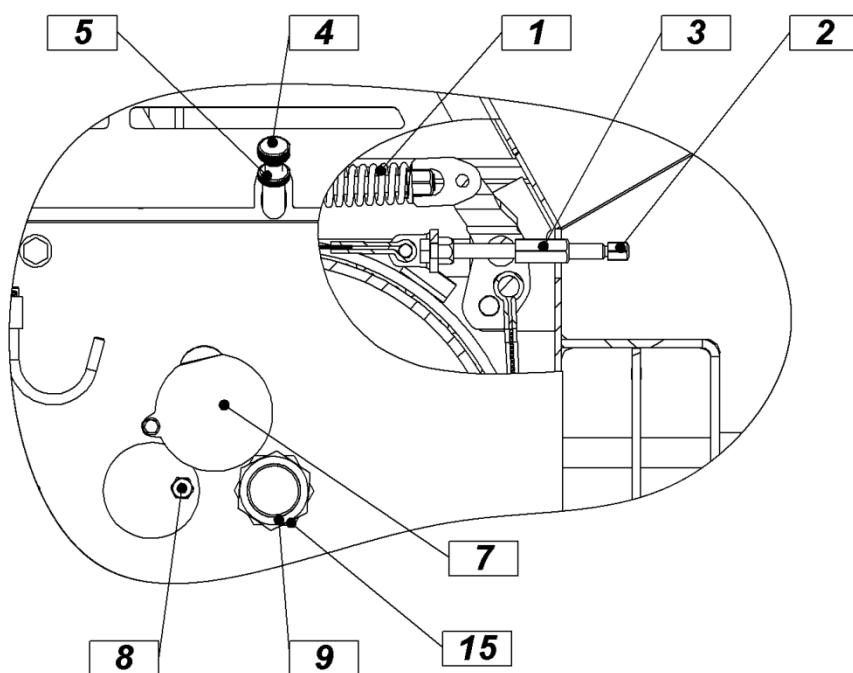

Figure 11
Pulling force on the clutch is factory set and does not require to be changed. Due to wear of friction surfaces, distance between clutches needs to be set after a certain period. This is done once a year at usual work in the forest or after every 1000 m³ of pulled out logs, but not before end of warranty period. Perform the setting by unscrewing the nut (pos. 9, figure 11), which is the safety nut, to the left. Then, tighten the high nut (pos. 15, figure 11) to the right. In this position, there is no distance between the clutches. Then, unwind the nut for one turn to the left – this creates a gap between the lamellas of approximately 4-5 mm. Retighten the safety nut (pos. 9, figure 11) to the right. This protects the high nut from unwinding. Engage the motor and PTO shaft, pull out the rope and begin controlling the adjustment. If, despite not engaging the right button for pulling, the rope starts to move, then the distance between the clutches is too small. Increase it for approximately 1 millimeter or repeat the setting procedure by unwinding the high nut for ¼ of a turn to the left. Engaging pulling is not allowed, if the nuts (pos. 9 and 15, figure 11) are not installed on the shaft, because the hydraulic cylinder of the clutch gets damages, because the maximum permitted travel is only 8 mm!
With bolt (pos. 4, figure 11) and wing nut (pos. 5, figure 11) set the preliminary brake. By rotating the bolt to the right, the brake force is increased, with rotating to the left, the brake force is decreased. Then tighten the wing nut, which prevents the bolt to loosen automatically. Proper setting ensures that the wire rope does not roll off the drum automatically or excessively. This would cause loose winding and damage to the wire rope at fast disburdening of the brake and unwinding. Preliminary brake is properly set when unwinding of the rope is still possible without excessive effort. If you pull the rope uphill, it is possible to additionally disburden the brake, so that rope towing is easier, the bolt (pos. 4, figure 11) must be returned to its original position immediately after.
At the end of pulling, the differential brake automatically engages. **The brake is factory set to the braking force, which is 25% higher than the rated pulling force of the winch. As the braking padding is wearing down, the braking force is changing and you have to reset it periodically. This is required when the brake does not hold the burden as described in the beginning of this paragraph. The braking force is adjusted by loosening or tightening the screw (pos. 2, figure 11) after you have loosened the locking nut (pos. 3, figure 11). Tightening the screw (pos 2, figure 11) decreases the braking force, while loosening increases it. After the adjustment is completed, tighten the locking nut (pos. 3, figure 11). Correctly adjusted frictional brake in the engaged position prevents the burden from sliding backwards, while in the disengaged position it allows for an uninterrupted drawing of the rope from the winch.**
First, remove the triangular protective net on the winch column. Then rotate the cover (pos. 7, figure 11) and rotate the drum in a position, which enables unscrewing of the bolt (pos. 8, figure 11) on the drum. Insert the wire rope in the guide of the upper pulley and direct it through the upper pulley to the rope drum. Insert the rope in the groove and tighten the bolt (pos. 8). Then start to wind according to the procedure, which applies to towing. Once the entire length of the wire rope is wound, unwind it again and wind it again strongly according to the procedure, which is described in the chapter "Wire rope unwinding" to prevent damage to the rope.